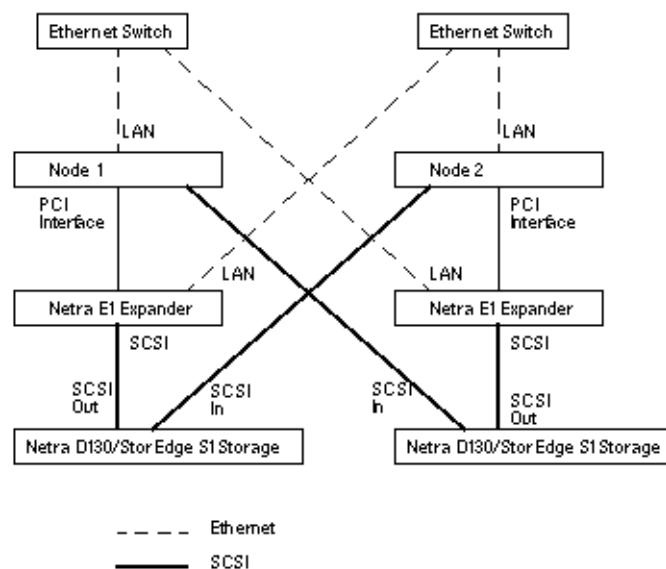

FIGURE 1–1 Mirrored Pair Configuration With Single SCSI Port Hosts: An Example
When you install the storage array on single SCSI port hosts use the Netra E1 PCI Expander for the second host SCSI port. Figure 1–1 shows an overview of the installation. The storage arrays are cabled so that there is no single point of failure in the cluster. Netra E1 PCI Expanders provide the second SCSI port for the 1RU form factor hosts such as the Netra t1, x1 or t1 200.
1. Connect the cables to the storage arrays, as shown in Figure 1–2.